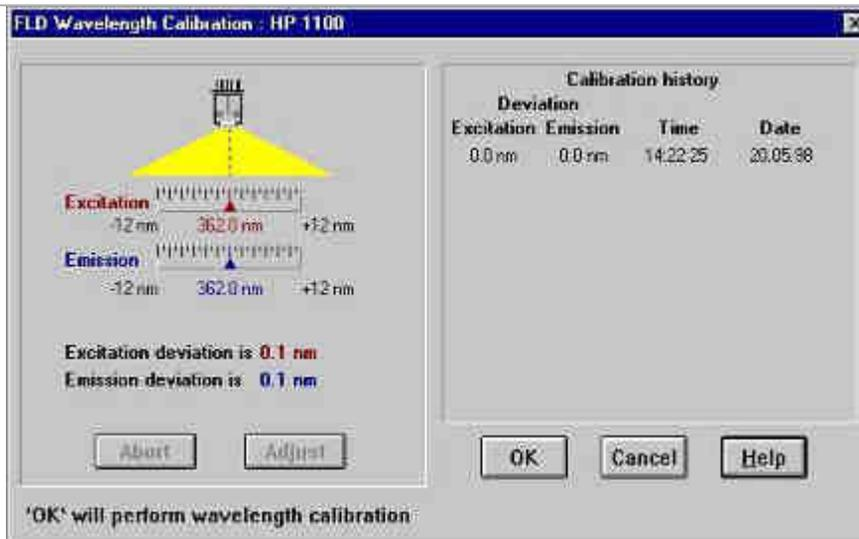

Figure 41 Wavelength Calibration - User Interface
- 1 From the user interface start the FLD Wavelength Calibration (see Figure 41).